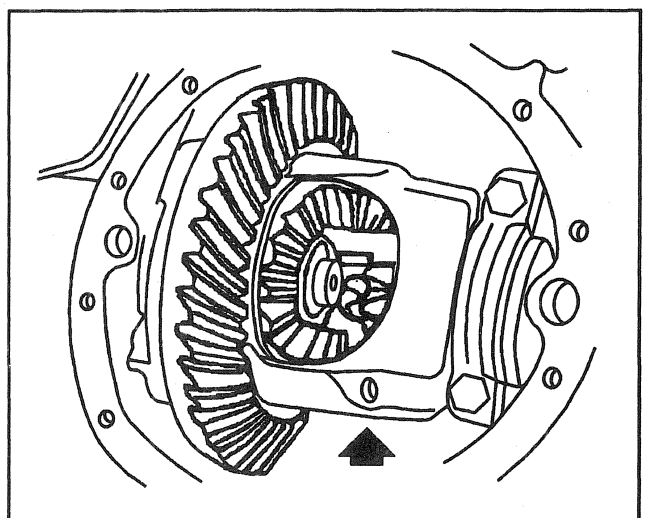

Figure 30—"C" Lock and Axle Shaft Seated In The Side Gear
4. "C" locks (34) on the axle shaft (33).
- Pull the axle shaft (33) outward so the "C" lock (34) seats in the counterbore of the axle side gear (Figure 30).
5. Pinion shaft (17) through the case (24) and differential gears (22).
6. Pinion shaft lock bolt (15).